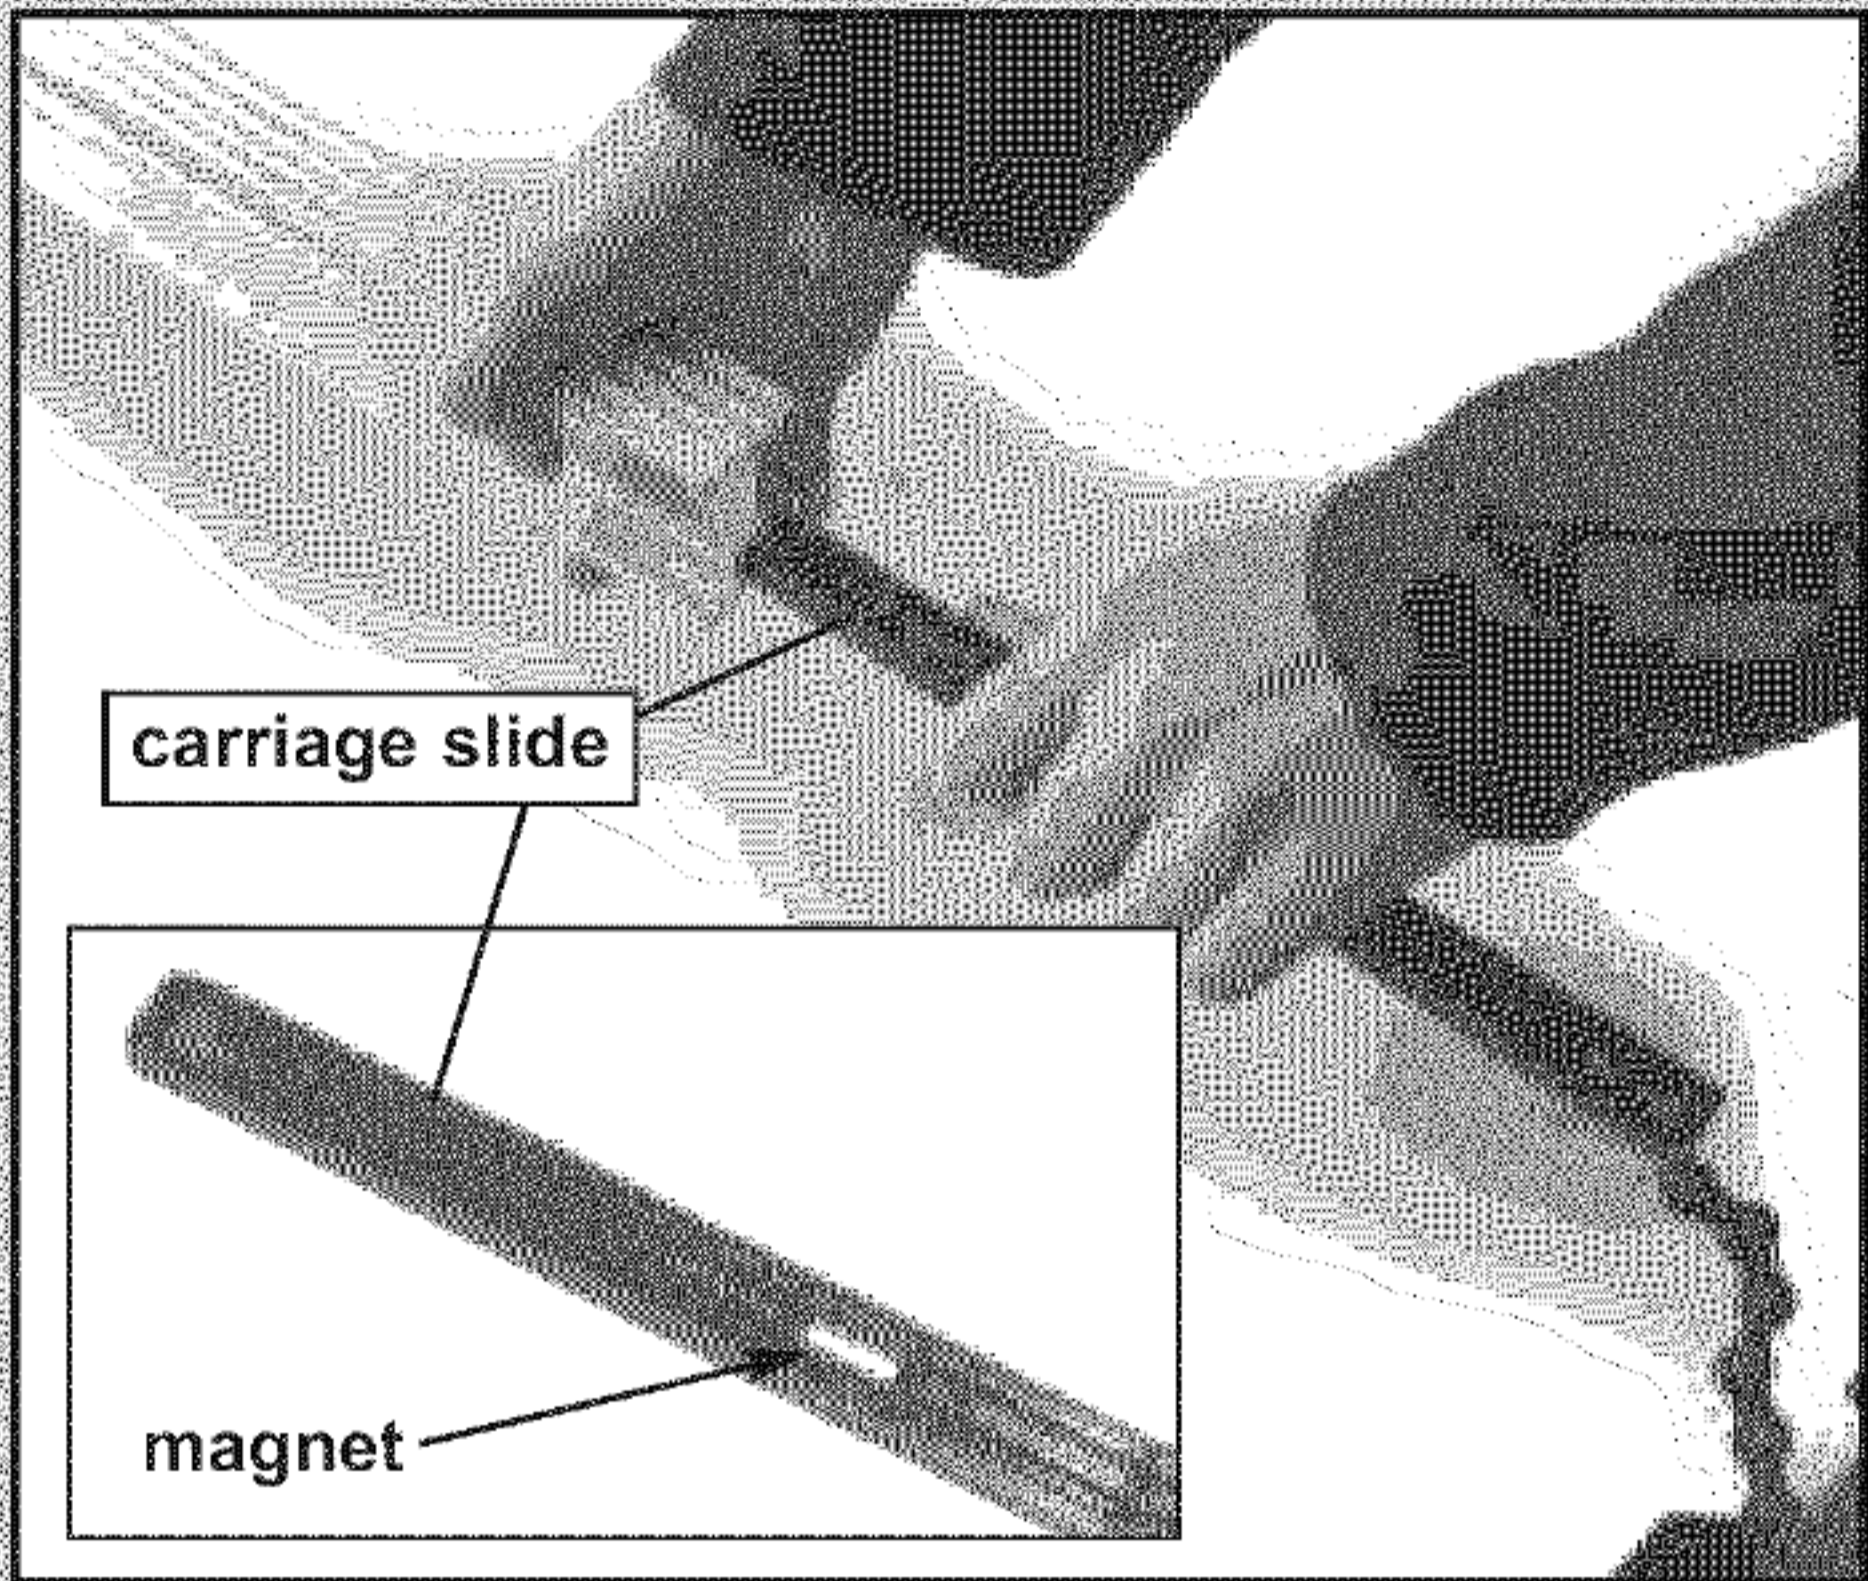

FIG. 1-6 Slip carriage slide into rail.
- Check if magnet is in place (Fig. 1-6 inset). Insert carriage slide into rail (Fig. 1-6). (*Carriage slide is long straight piece attached to chain.*)
- Pull rail toward you as you feed chain into it. (Fig. 1-6). When the end of the rail is within about 2 chain links of the power head, you can then push it the rest of the way. (It is a snug fit.)